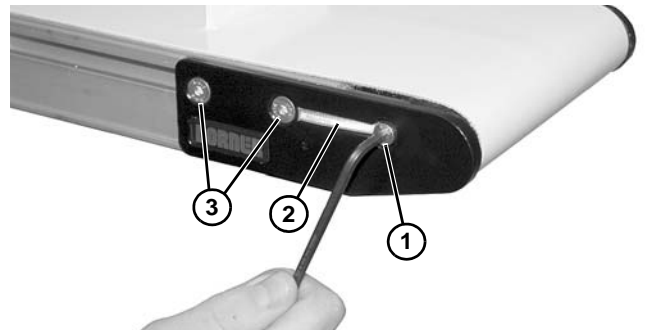

Figure 56
2. On one side of the conveyor, remove screw (**Figure 56, item 1**) and remove dust cover (**Figure 56, item 2**), if installed.
3. Remove two fastening screws (**Figure 56, item 3**).